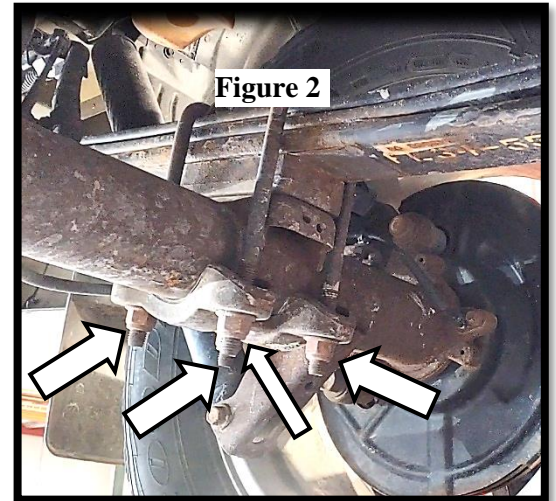

Figure 2
- 8) While supporting both ends of the axle and the pinion, evenly remove the U-bolts holding the axle to the leaf springs. **(Figure 2)** Disconnecting the axle from the leaf springs while leaving the axle mostly in place will allow this installation to be completed without removing the brake and ABS systems from the axle.